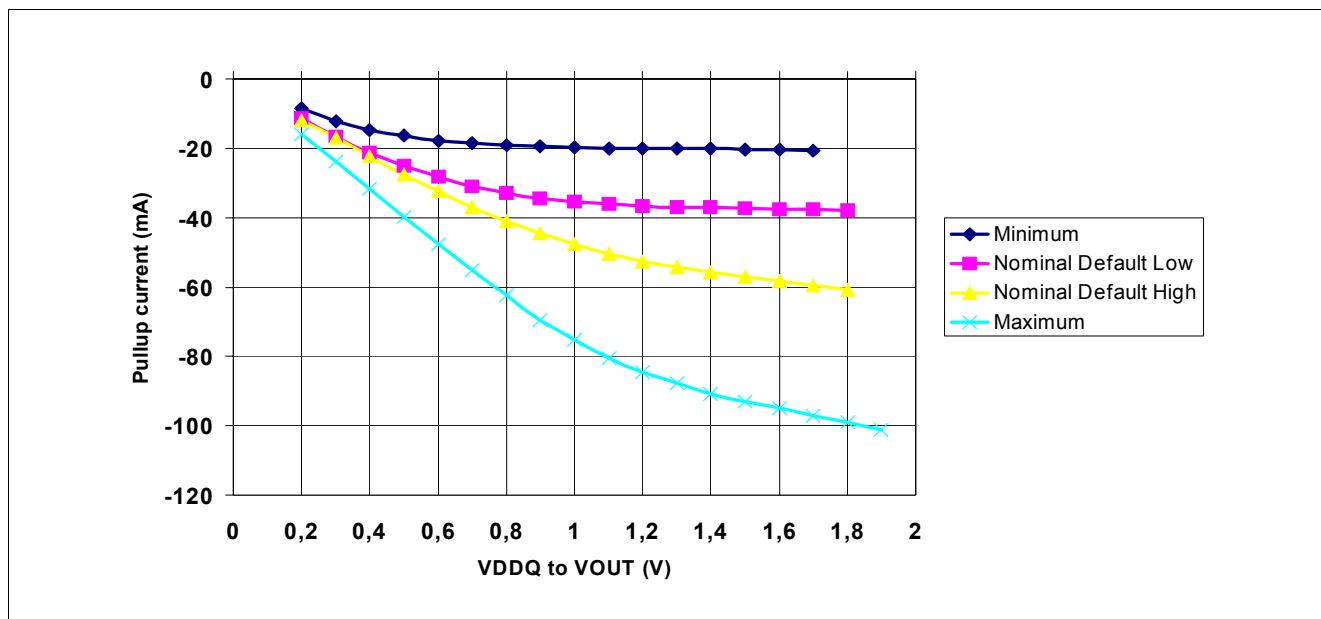
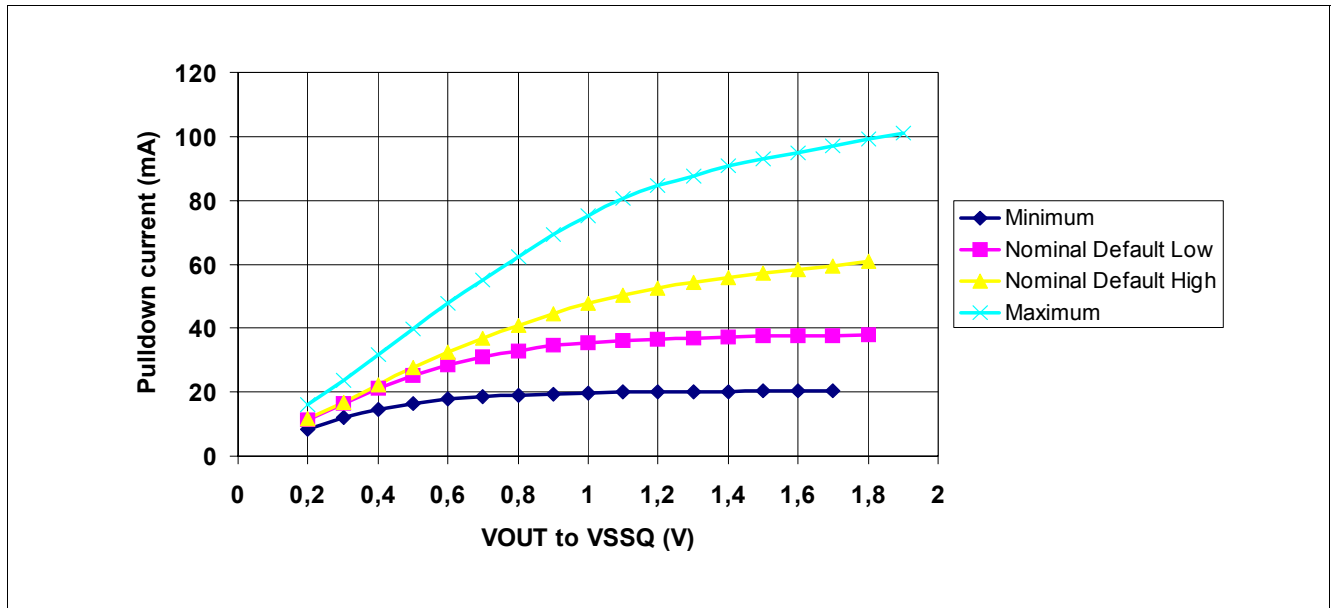

Figure 65 Full Strength Default Pull-up Driver Diagram
Figure 66 Full Strength Default Pull-down Driver Diagram
DDR2 SDRAM output driver characteristics are defined for full strength default operation as selected by the EMRS(1) bits A[9:7] = '111'. Figure 65 and Figure 66